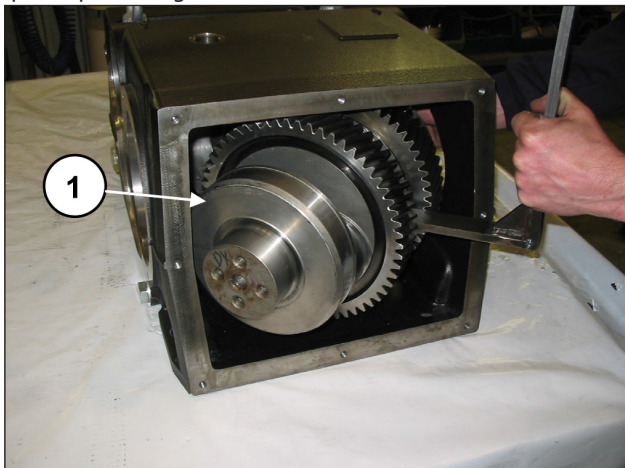

Fig. 40
Remove the bend shaft from the back of the casing (pos. ① pos. ①, Fig. 40).